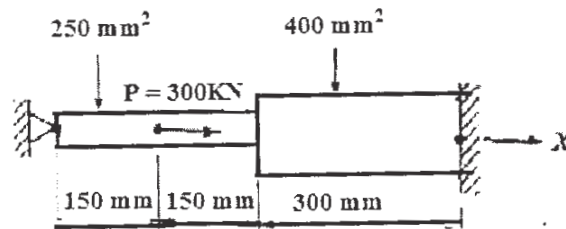

Fig. 3b
b) Consider the bar loaded as shown in figure 3b. $E = 200 \times 10^9 \text{ N/m}^2$. Determine [8]